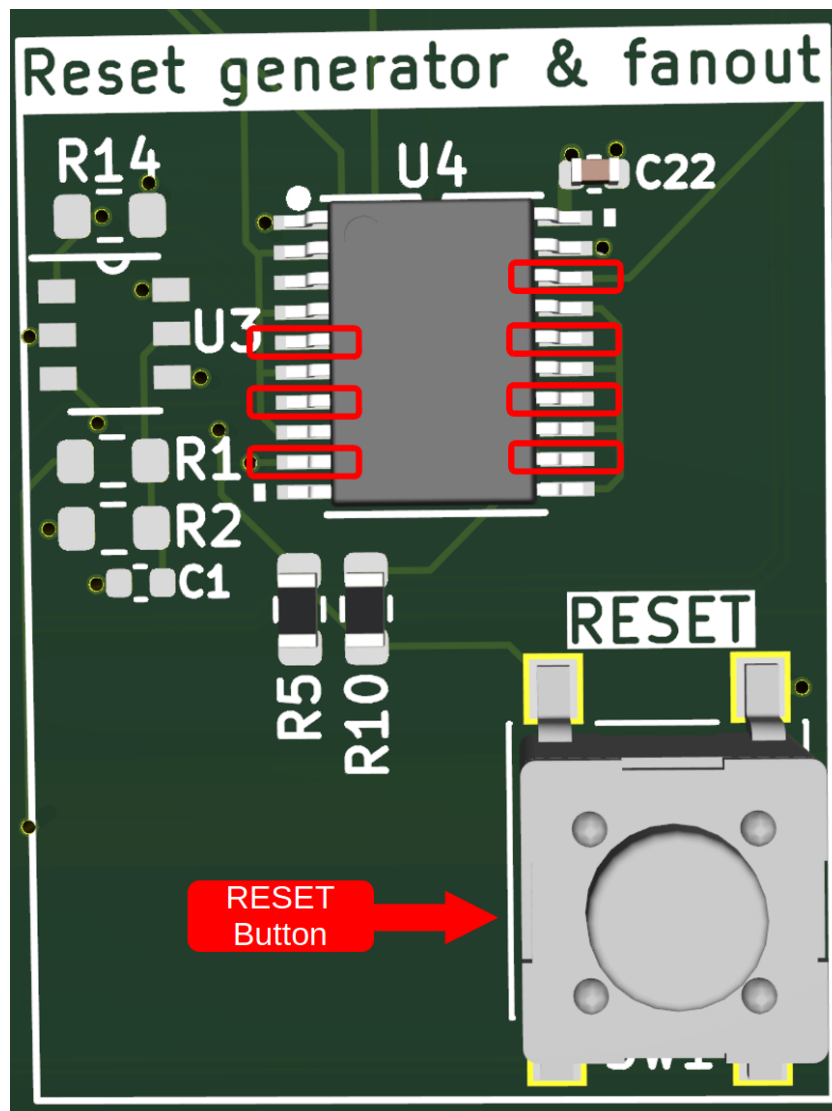

Figure 2: Location of Reset Button and the 7 Verification Points
2. **Step 2.2:** Locate the **RESET Button** and the **7 specific Reset Test Points** indicated in **Figure 2**.